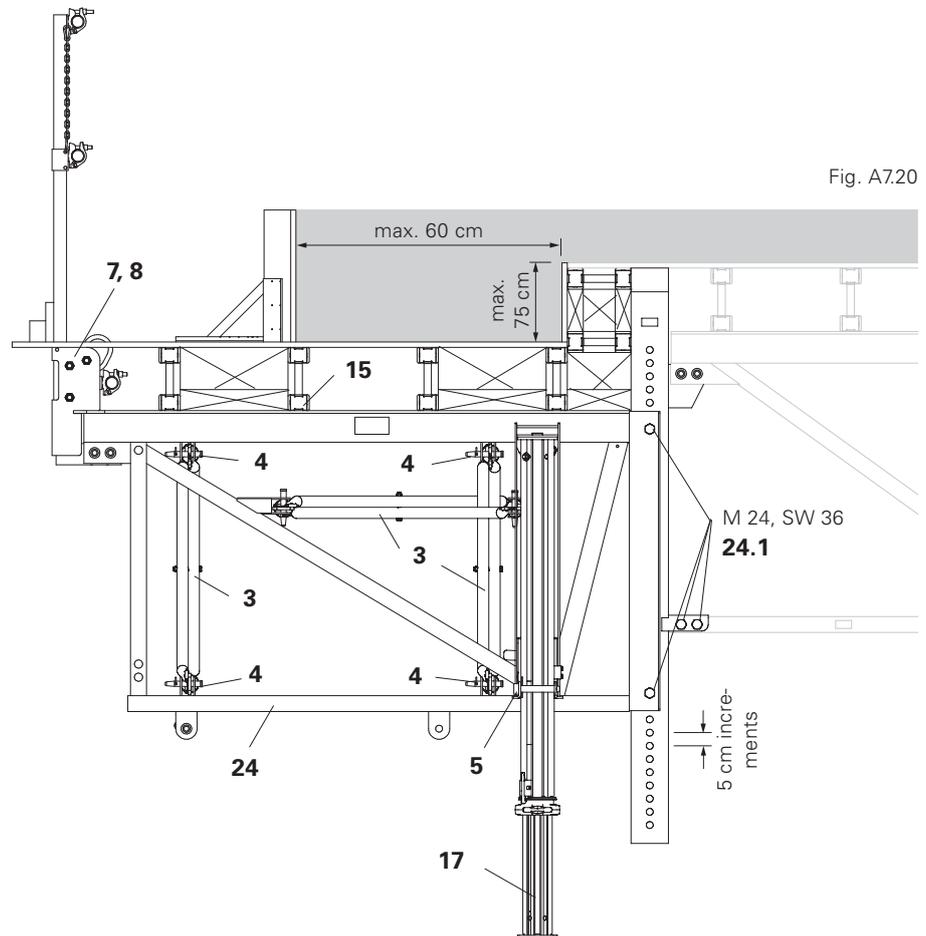

Fig. A7.20
1. Mount Beam Truss ST (24) to Truss Girder STT using pins and cotter pins (24.1).
2. Mount Quick Lowering Device STQ (5) and MULTIPROP props (17).
3. Vertical bracing for the beam: Two Diagonal Braces STD (3) and four Spreader Tubes STST (4) at front and rear.
4. Horizontal bracing for the beam: With a Diagonal Brace (3).
5. Mount Crane Eye Adaptor STA (7) and guardrail (8).
6. Position and fix GT 24 girder (15) and plywood formlining.
7. Mount stopend formwork. (Fig. A7.20)